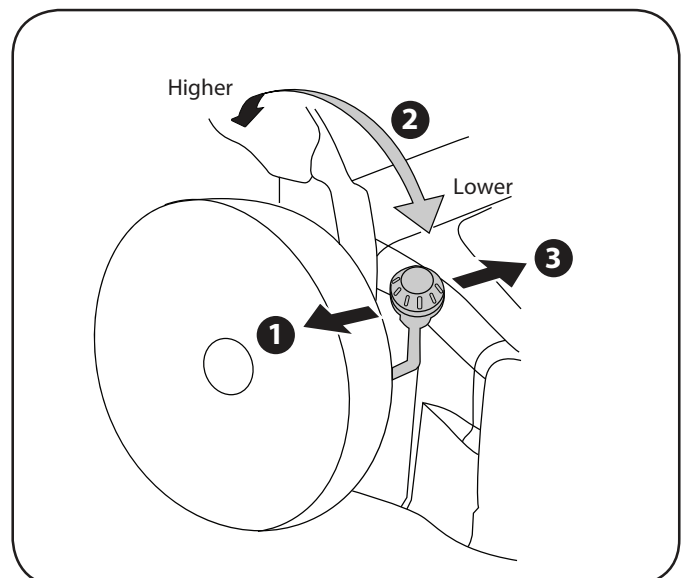

Figure 9
1. Pull the height adjustment lever outward towards wheel (unit will tend to fall when lever is moved outward). See Figure 9.
2. Move lever to desired position for a change in cutting height (Figure 9).